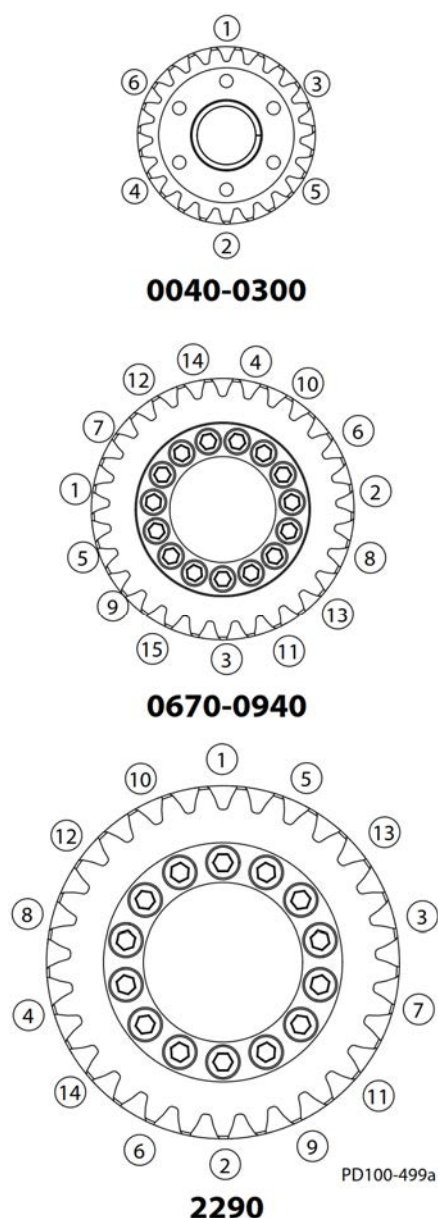

Fig. 62: Screw Tightening Patterns
- Following a diametrically opposite sequence, tighten the screws to the value shown in Table 10 for "Step 1." Do not turn any screw more than 1/4 turn at a time, to ensure that the clamp load is applied evenly. Suggested patterns are provided in Figure 62, listed by model number.